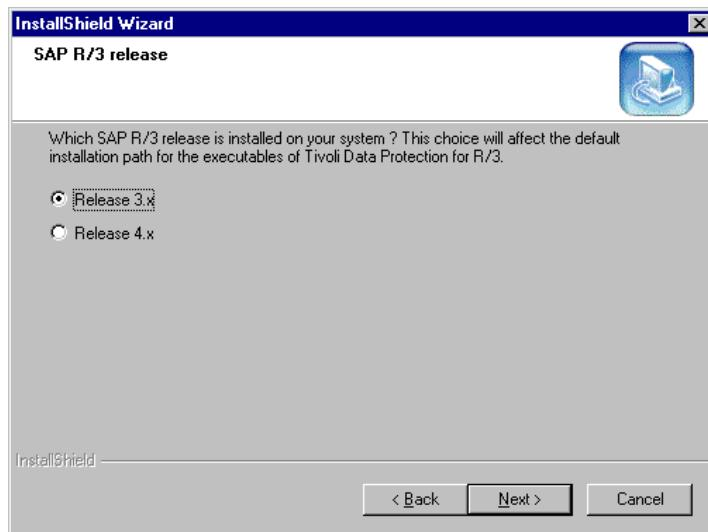

Figure 68. Specify the R/3 release
4. As shown in Figure 68, now specify the version of your R/3 environment you have installed on your system. If you select the **Release 4.X** option, then the TDP's executable files will be by default installed to the <drive>:\usr\sap\<SID>\sys\exe\run folder.